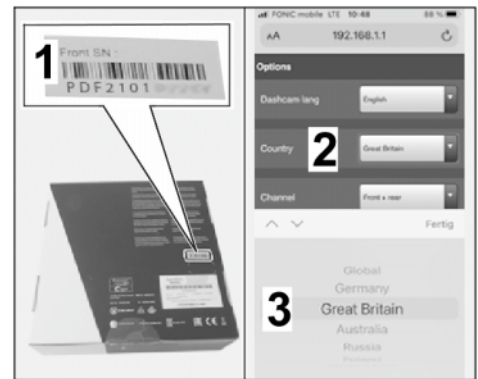

Figure 21
- 5.3.2 Select the country (⇒ Figure 21).